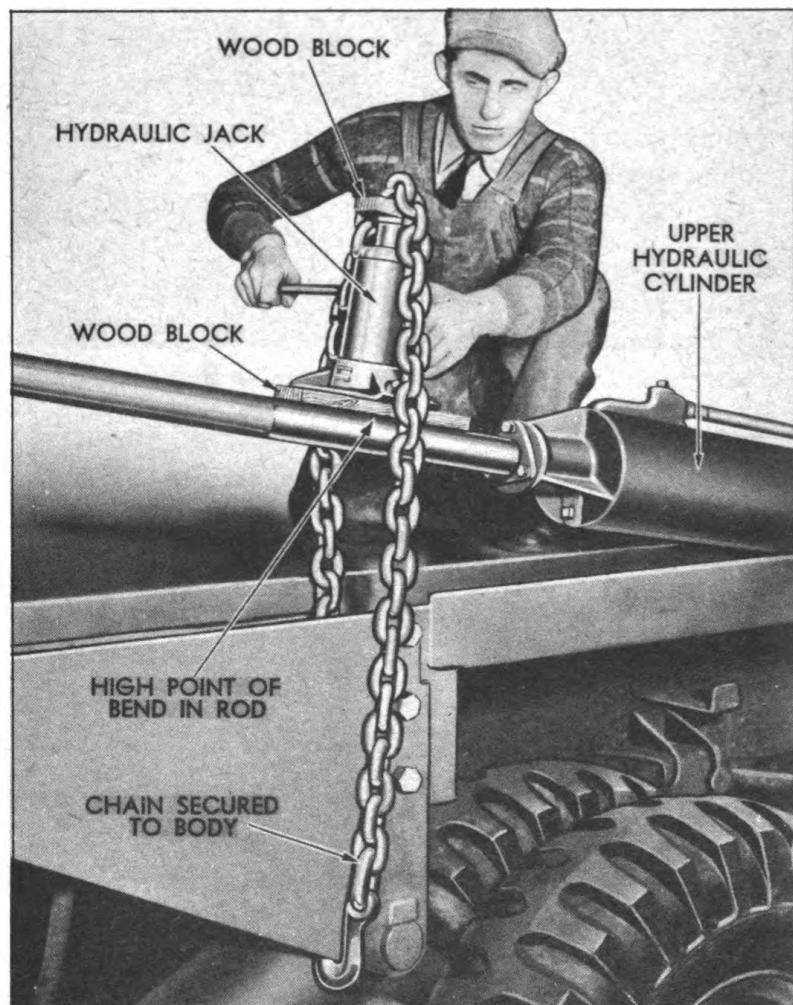

Figure 37.
(2) HOW TO STRAIGHTEN UPPER PISTON RODS. Bent piston rods may be straightened by using the hydraulic jack furnished with the unit and chains and blocks as shown in Figures 37 and 38. Pressure is applied to the high point of the bend in the rod with the jack.